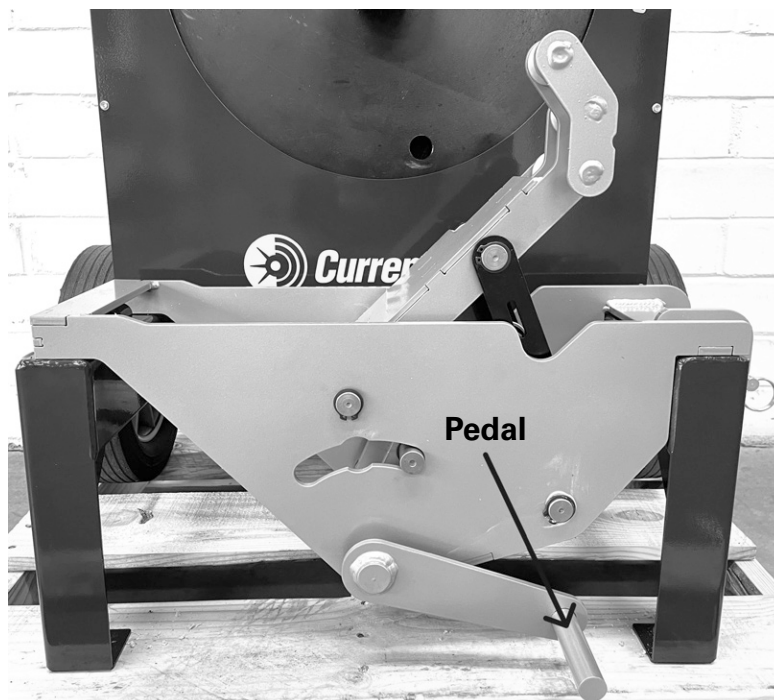

Figure 18b
3. Use the roller support engaging pedal to lift the rollers. See Figure 18b.